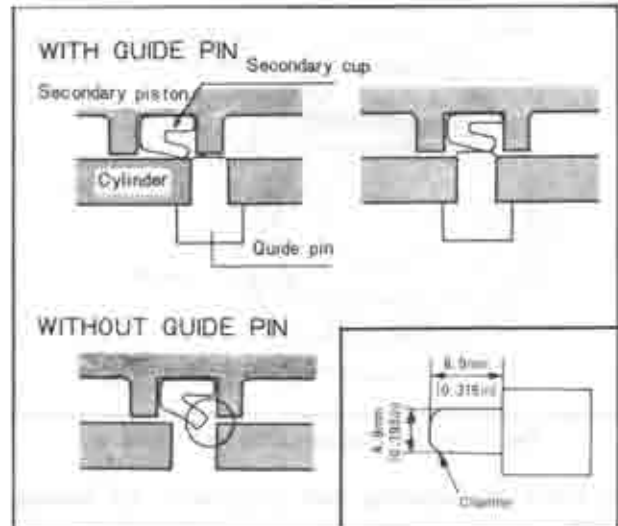

Fig. 11-9 Piston guide pin
4. Fit the guide pin, as shown in Fig. 11-9, into the stop bolt hole and insert the piston assembly and return spring into the cylinder. With a screwdriver push the piston as far as it will go, remove the guide pin, and install the stop bolt and washer.